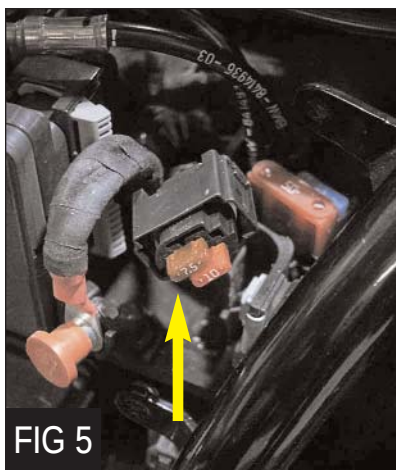

FIG 5
4. Remove the 7.5 amp fuse (*Figure 5*) and insert the fuse into the adapter at the end of the wiring pigtail (*Figure 6*).